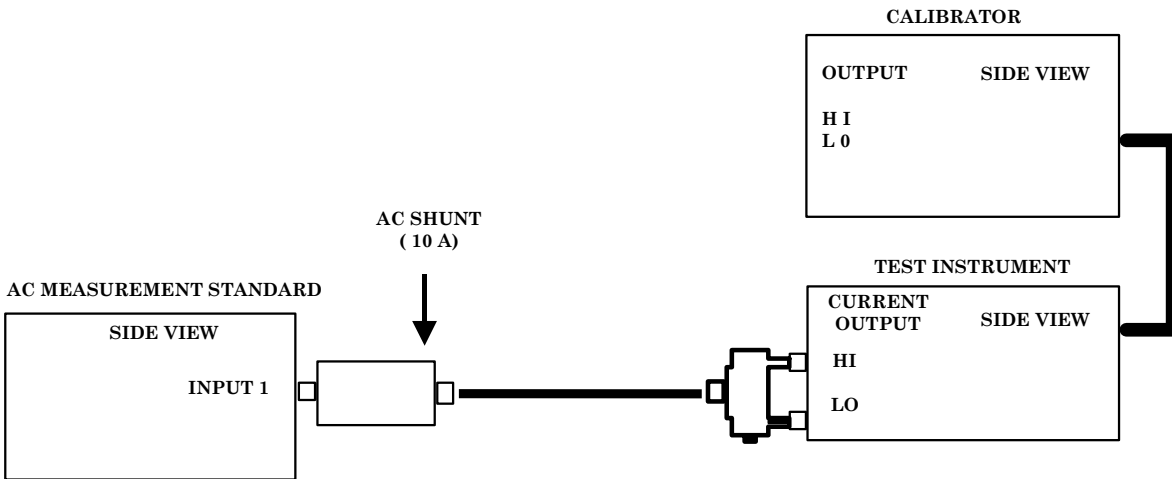

Figure 16. Ac current (10 A)
- a.** Connect equipment as shown in figure 16. Press **INPUT 1** pushbutton on ac measurement standard.